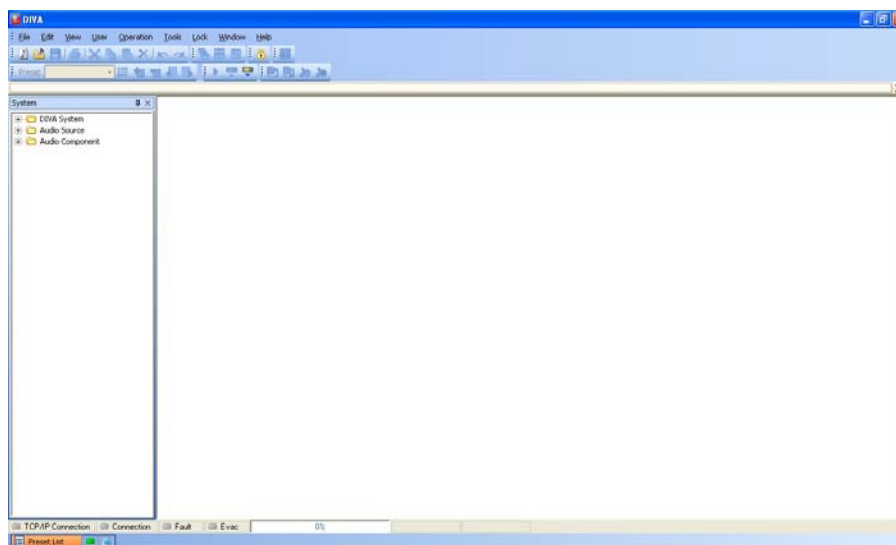
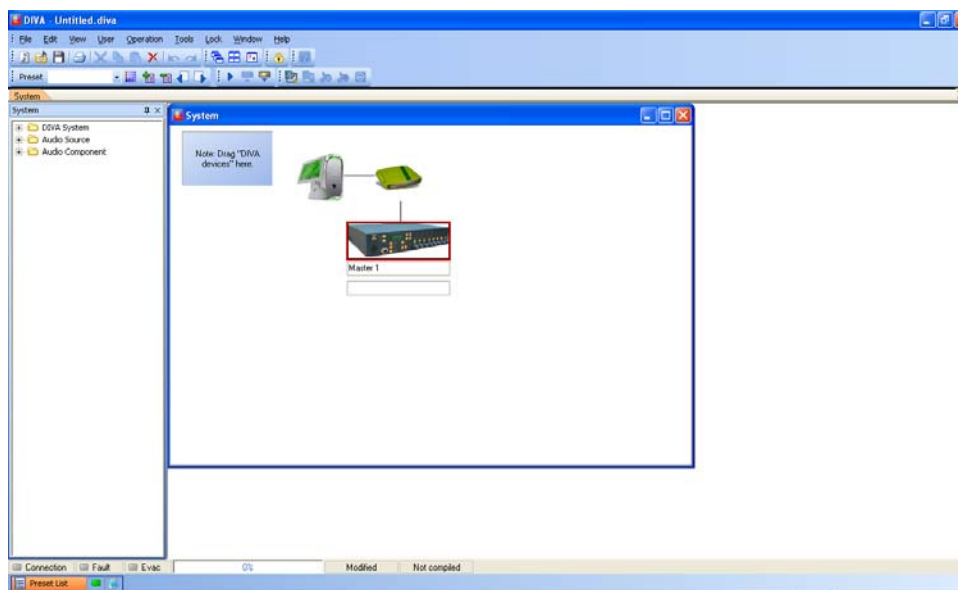
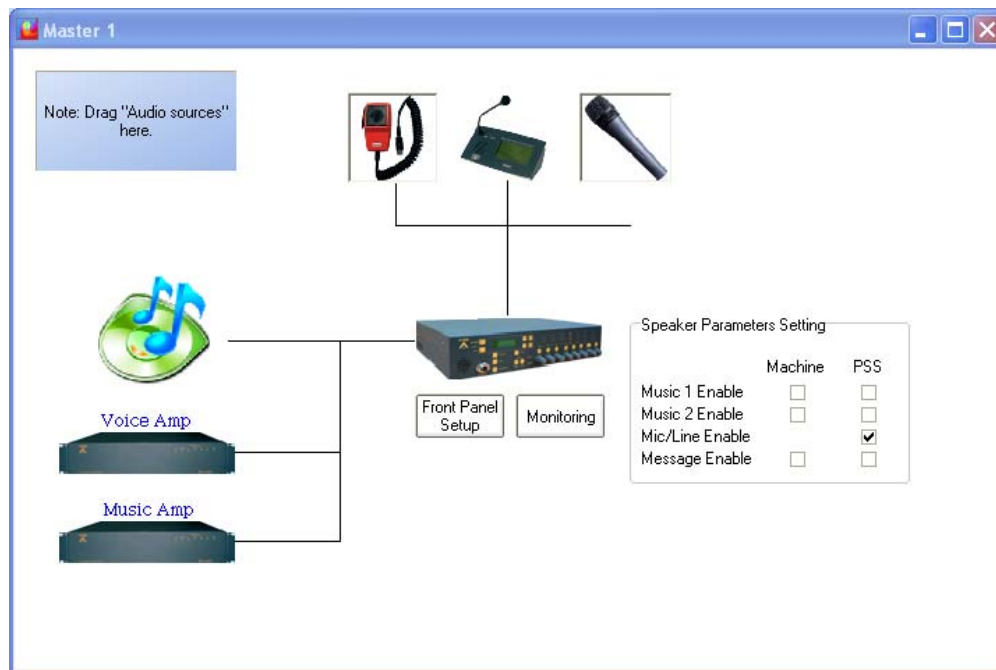

Figure 5: DIVA Software front page
Figure 7: New System
Figure 10: Master page
- The start page is represented on Figure 5. A first thing to do is to start a new project by clicking on  or by going through the menu file. This will launch a new window named “System” displayed on Figure 7.
- In the main system page (Figure 7), double click the DIVA Icon after having rename DIVA apparels according to your wishes, here DIVA1 (default is “master1”). A “DIVA1” pop window is displayed (Figure 10).